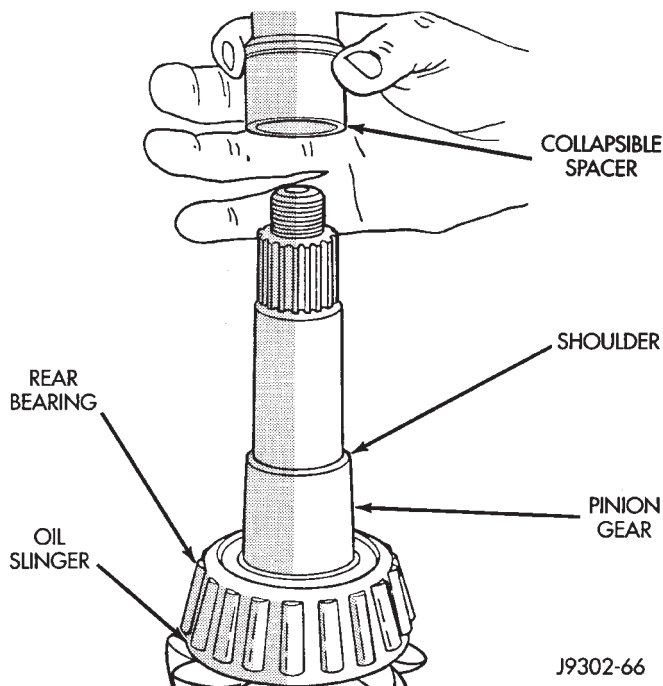
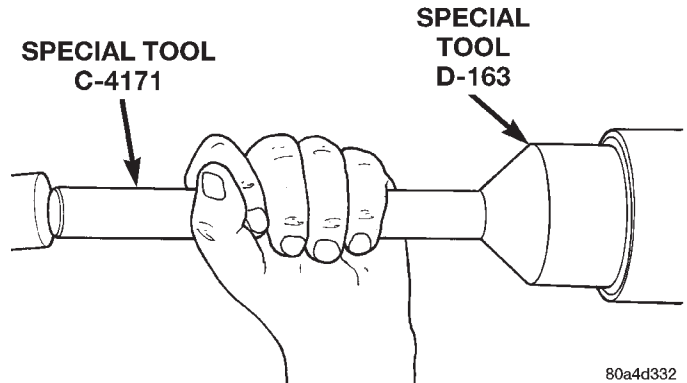

Fig. 17 Collapsible Preload Spacer
Fig. 18 Pinion Seal Installation
- (1) Install a new collapsible preload spacer on pinion shaft (Fig. 17).
- (2) If pinion gear was removed, install pinion gear in housing.
- (3) Install pinion front bearing. Apply a light coating of gear lubricant on the lip of pinion seal. Install seal with Installer D-163 and Handle C-4171 (Fig. 18).